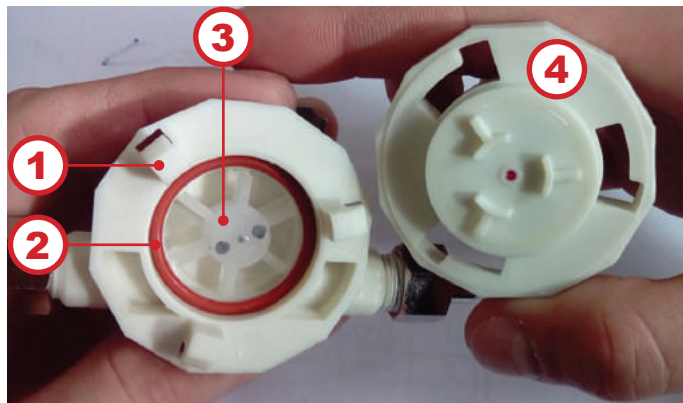

Fig.11.10
6. Turn the flow meter cover all the way out and remove it from the case (see fig. 11.9 and fig. 11.10).
7. Clean the flow meter inside parts (see fig. 11.10)